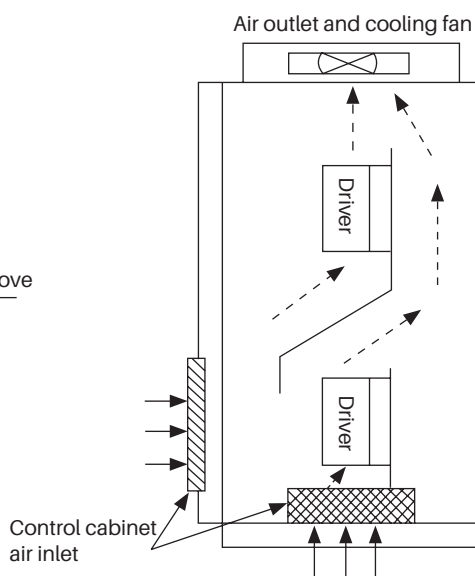

Figure 1-8 Multiple controllers installation
- Generally, abreast installation mode is adopted when multiple drivers are installed in the control cabinet, and air inlet, outlet and dedicated cooling fan shall be equipped; if up and down installation mode is adopted, stream guidance clapboard shall be added between drivers to guarantee good cooling effect as shown in Figure 1-8.